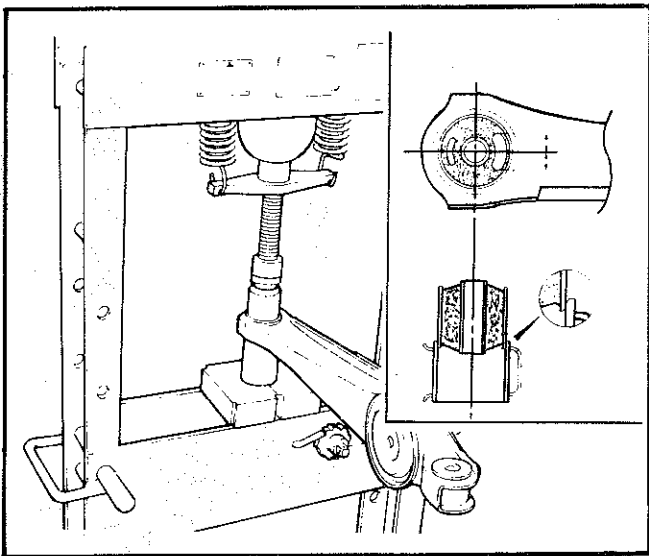

Fig. 6—Installing the lower control arm front bushing
- (2) Install the front bushing using a press and suitable installation tool. Install the bushing into the chamfered end of the bushing hole of the control arm (Fig. 6) and in the position as shown in Fig. 6, (large cut out facing rear of vehicle).